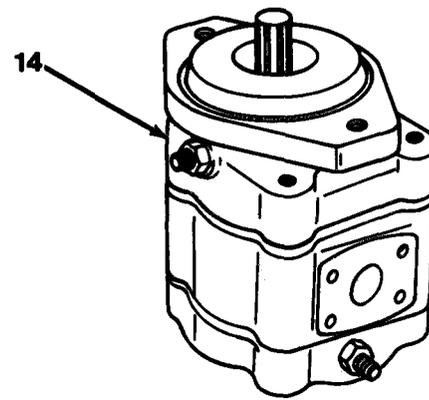

Figure 16-7
14. Install four washers (13), capscrews (12), O-ring (11) and drain plug (10, Figure 16-7).